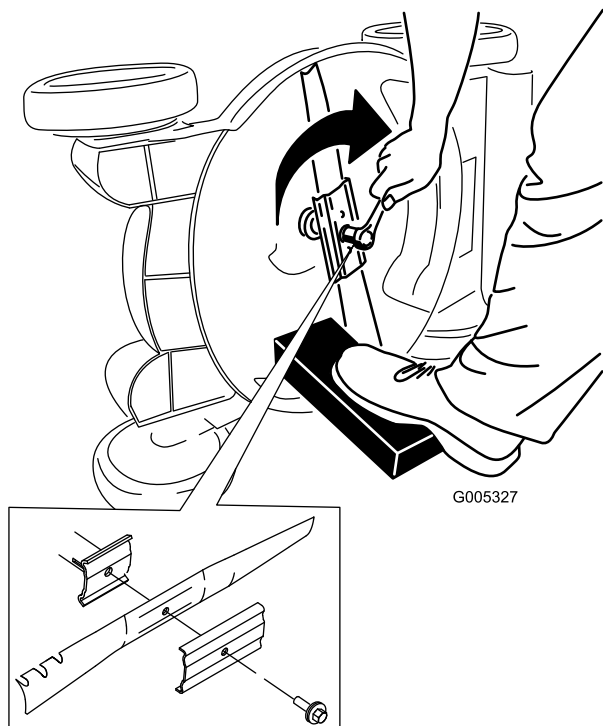

Figure 46
5. Install the new blade and all mounting hardware (Figure 46).